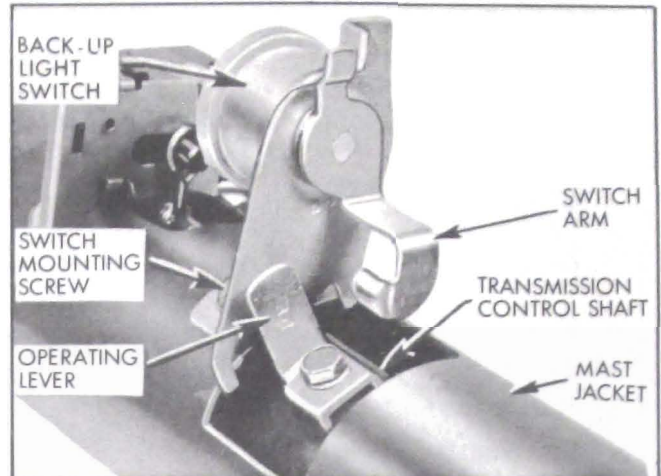
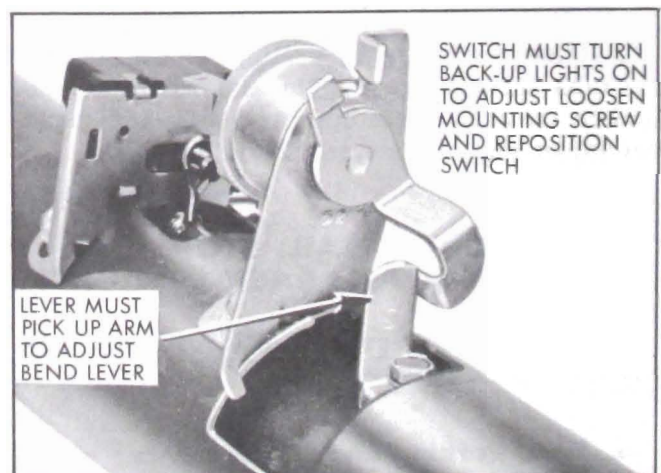

Figure 10-45—Bottom View of Back-up Light Switch - Neutral Position
Figure 10-46—Back-up Light Switch - Reverse Gear
On synchromesh transmission cars, the back-up light switch is mounted on the steering mast jacket. This switch is actuated by a lever which projects through a slot in the jacket. The lever is attached to a weld nut on the transmission control shaft. See Figure 10-45. When the transmission is shifted into reverse, the control shaft is moved downward and then rotated counter clockwise. This in turn positions the lever so that it picks up the switch arm and turns the back-up lamps on. See Figure 10-46. When the shift is made out of reverse, the spring loaded switch arm returns to the off position. The back-up lights are
5. If back-up lights are not on in reverse, check to see that operating lever is picking up switch arm. If necessary bend lever. See Figure 10-46. If lamps are not on when switch arm is picked up correctly, loosen switch mounting screw and move switch on mast jacket until lamps are turned on. Retighten screw and recheck adjustment.